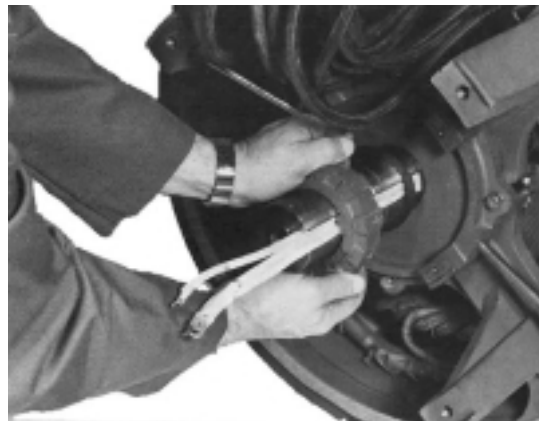

Figure 6-66
2. Slide PMG rotor onto shaft. (Figure 6-66.)